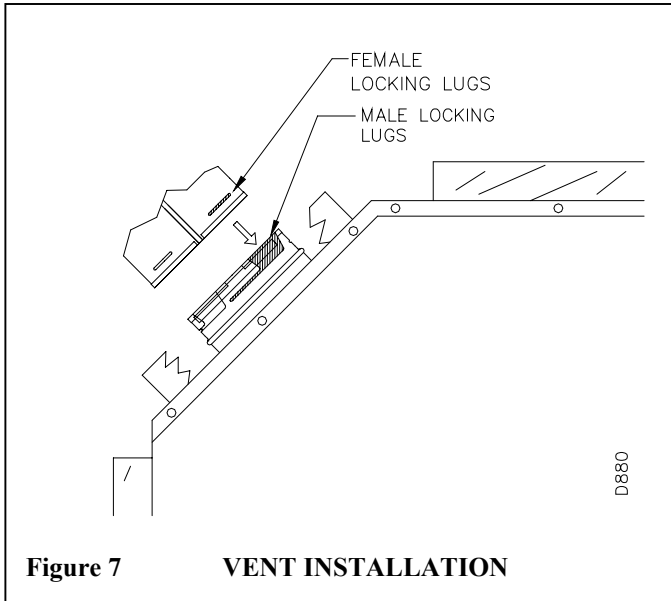

Figure 7 VENT INSTALLATION
1. Install pipe to fireplace collar adapter located on back of unit at a 45 deg. Angle. Connect our starting pipe to a 45 deg. Starting section by sliding it over the collar adapter on the fireplace. Twist-lock for proper installation check to insure proper connection (see figure 7).